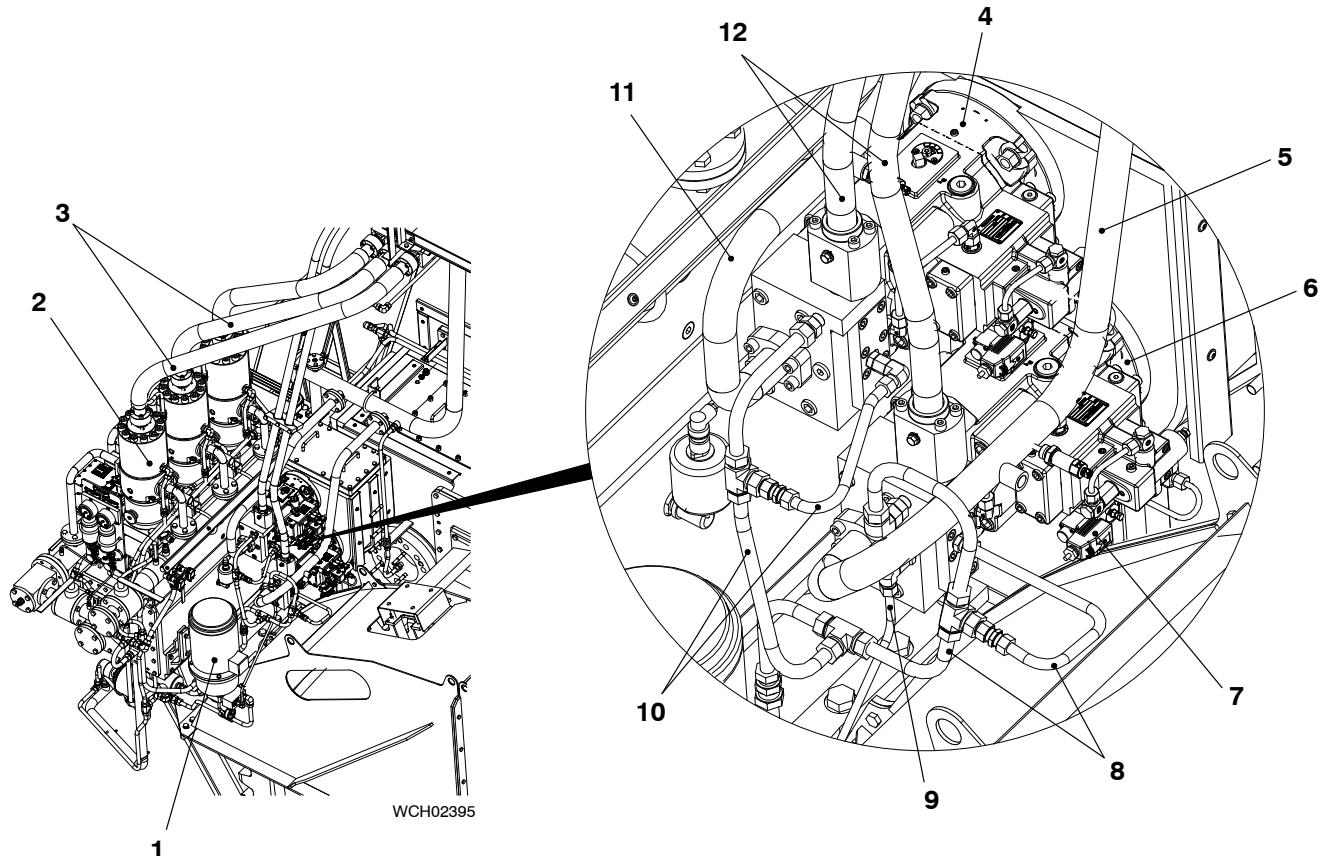

Fig. 12
- 1) Attach the oil inlet pipes (11, Fig. 12) to the servo oil pumps (4, 6).